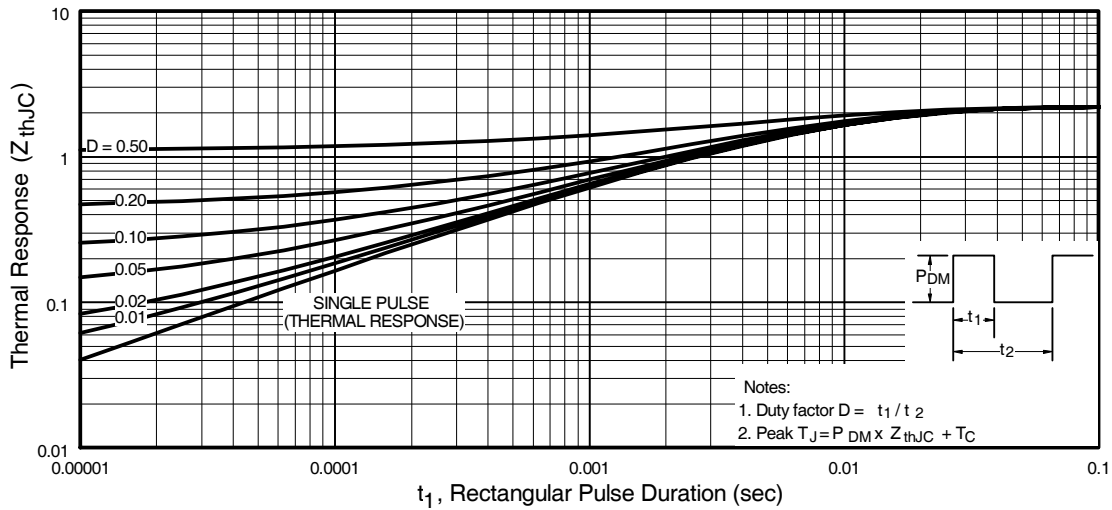

Fig 11. Maximum Effective Transient Thermal Impedance, Junction-to-Case
- ① Repetitive rating; pulse width limited by max. junction temperature. (See fig. 11)
- ② $V_{DD} = 25V$, starting $T_J = 25^\circ\text{C}$, $L = 410\mu H$